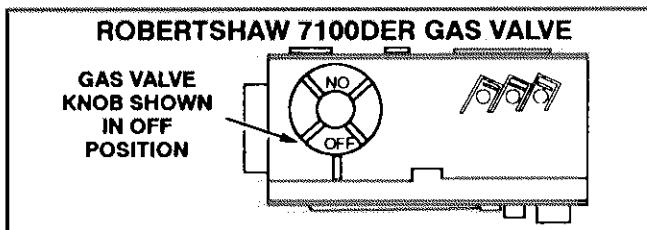

FIGURE 3
Gas Valve Operation for Robertshaw 7100DER Series Valve (Figure 3 - 5)
- 6- On Robertshaw 7100D and Honeywell VR8204 gas valves, turn knob on gas valve clockwise ➡ to OFF. Units with Robertshaw 7200 gas valve, depress lever and move to OFF position. Do not force. See figures 3 through 5.